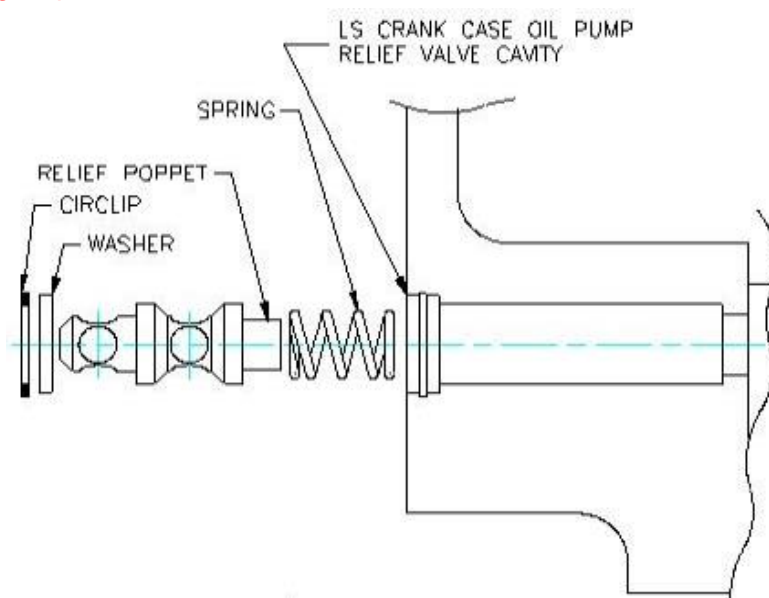

Figure 208 – Oil Pressure Relief Valve Assembly
- Fit the components of the valve as shown in Figure 208. Ensure the circlip is fitted with the flat face outwards and the curved face inwards – and that it “snaps” into position clearly when fitting.